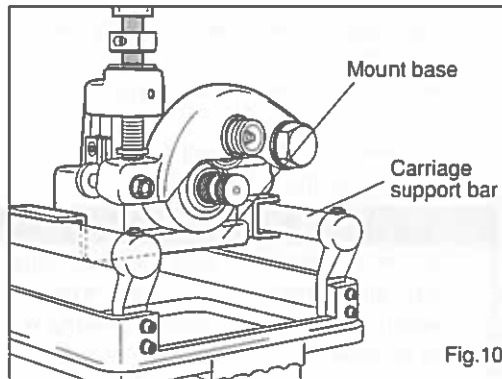

Fig.10
- 3) Place the mount base on the carriage support bar, and tightly grasp the connecting shaft with the front chuck. (See Fig. 10)